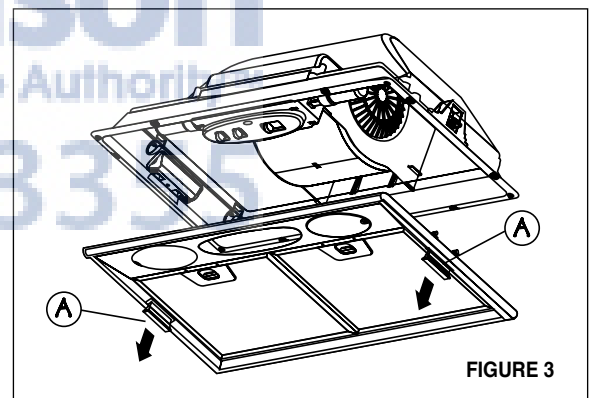

FIGURE 3
3. Remove the bottom of the rangehood by pulling on the grey tabs (**A** in **FIGURE 3**) located on either side.
6. Replace the bottom of the rangehood and secure by pushing in the grey tabs (**A** in **FIGURE 3**).